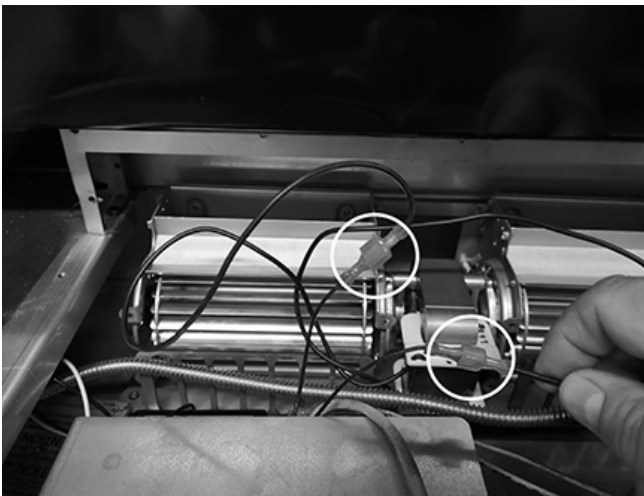

Figure 66: Connect blower wires
12. Connect the wires from the blower assembly to the wires leading from the control module. Figure 66